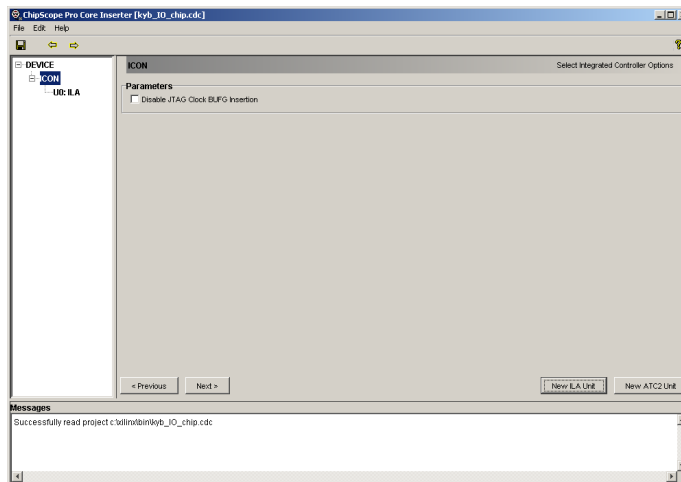

Figure 15
23. Note that a new ILA core is added in this dialogue box. (U0:ILA in Figure 15)